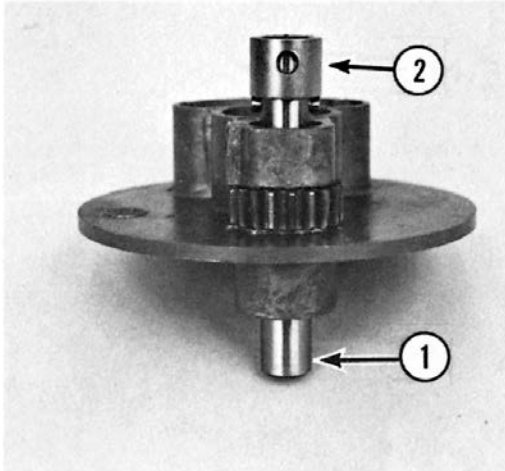

Fig. 2-4
- E. The agitator shaft (1, Fig. 2-4) can be pressed out of the planetary from the bottom side.
- F. The upper bearing (2, Fig. 2-4) and agitator shaft pin will come out with the agitator shaft.